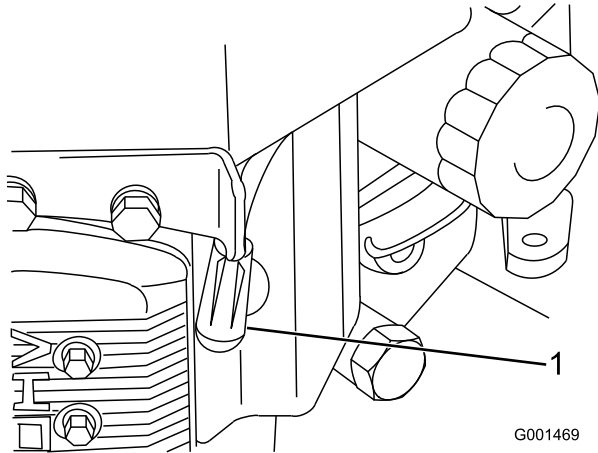

Figure 34
3. Disconnect the wires from the spark plugs (Figure 34).